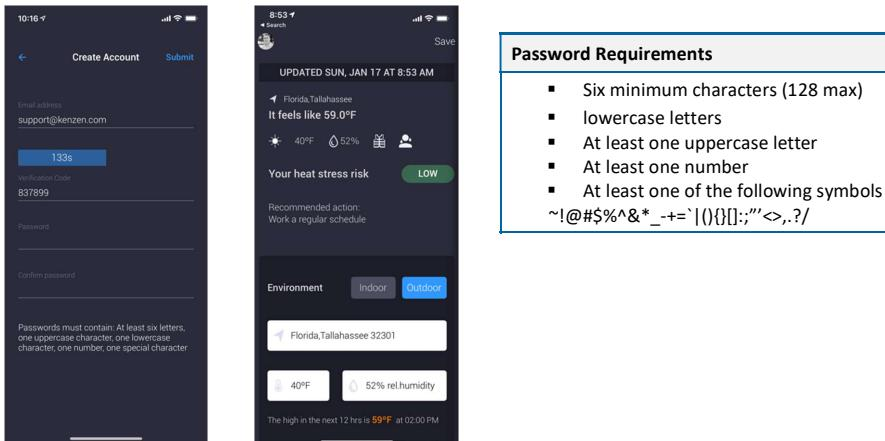

Figure 6: Verification Code
7. Enter the six-digit Verification Code and your user password. The Work Rest Calculator will display upon successful account creation (Figure 6).